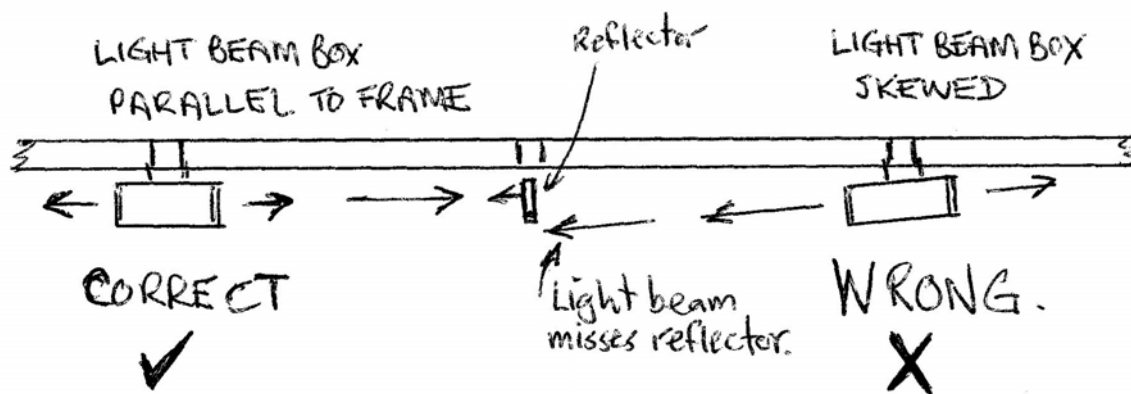

Figure 2.2 Correct and Incorrect Alignment of Light Beam Detector Box.
- Make sure that the Light Beam Detector Boxes are aligned with the finish line so that the light beams are parallel to the line and not skewed. See Figure 2.2.
Step 2 Switch the Timer ON. If any of the Light Beam Detector Boxes emits a pulsing beep it means that the light beams are not properly aligned with the reflectors (see Figure 2.2), or the height needs adjustment. If difficulty is experienced in alignment, you can identify the offending beam(s) by observing the red indicator lamp visible through the hole **behind** each individual infra-red sensor. **The red lamp glows when the beam is not being reflected properly.** You will have to remove the safety cover to observe the indicator lamps.